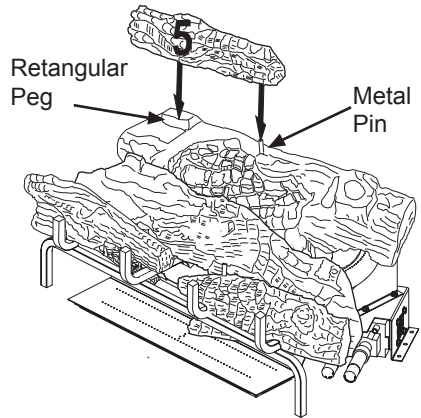

Figure 41 - Installing Log # 5
4. Place the left back top log (#5) on top of the rear log (#1). Match the rectangular peg on top of the left side of the rear log (#1) with the rectangular hole on the bottom of the left back top log (#5). Match the metal pin on the top of the rear log (#1) with the round hole in the bottom of the left back top log (#5). See Figure 41.